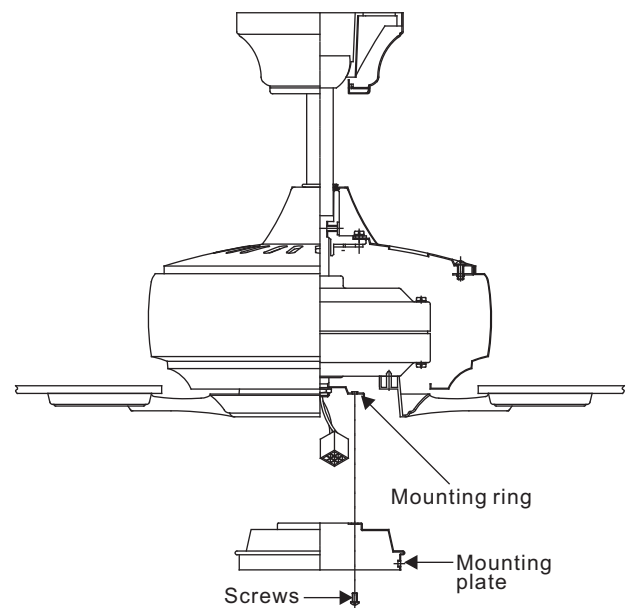

Figure 18
Step 2. Place the key holes on the mounting plate over the 2 screws previously loosened from the mounting ring, turn mounting plate until it locks in place at the narrow section of the key holes. Secure by tightening the 2 screws previously loosened and the one previously removed. (Fig. 18)